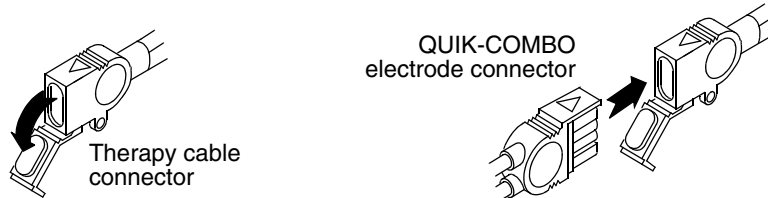

Figure 5-3 Connecting QUIK-COMBO Electrodes to Therapy Cable
- 1 Open the protective cover on the QUIK-COMBO therapy cable connector (refer to Figure 5-3).